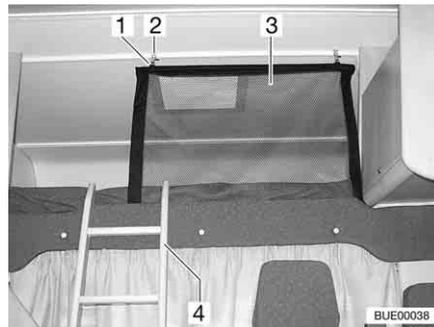
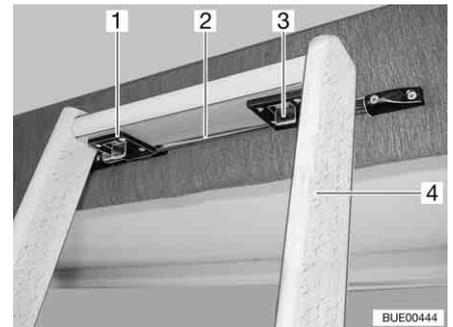

Fig. 82 Overcab bed
Fig. 83 Access ladder, catch
Always use the access ladder (Fig. 82,4 and Fig. 83,4) provided as standard to access the overcab bed.
- Hang the ladder with the two hooks (Fig. 83,1) on the rail (Fig. 83,2) of the alcove flap.
- Push the two catches (Fig. 83,3) forward.
The safety net (Fig. 82,3) is stored as standard between the mattress and slatted frame. Only use the safety net if persons are already in the alcove.
- Attach the holder (Fig. 82,1) to the eyes on the ceiling (Fig. 82,2).